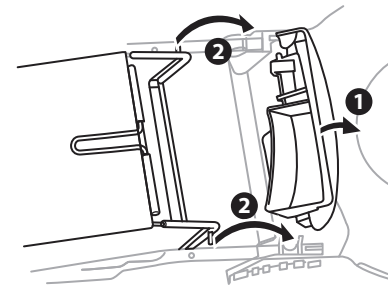

Fig. 3
2. Raise the rear discharge cover (1, Fig 3)
3. Attach the grass catcher by inserting its frame hooks onto slots in the rear of mower (2, Fig.3).